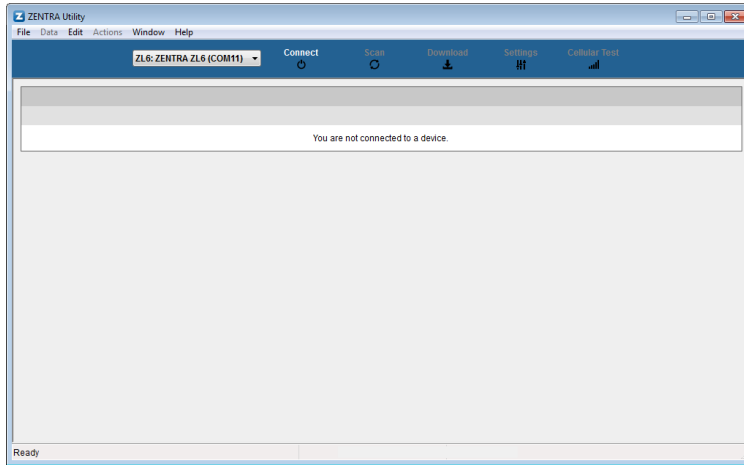

Figure 2 ZENTRA Utility initial screen
2. Launch ZENTRA Utility software on a computer (Figure 2).